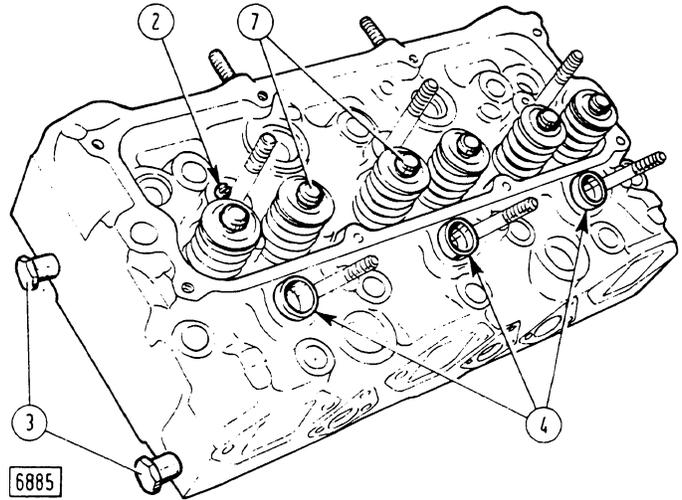

Fig. 15 - Rear Cylinder Head
To obtain a proper seal between injector and sleeve bottom, dress the taper seat using cutter **291339** (F). Ensure that the orifices in rocker lubricant restrictor plugs (2, Fig. 15) are not clogged.